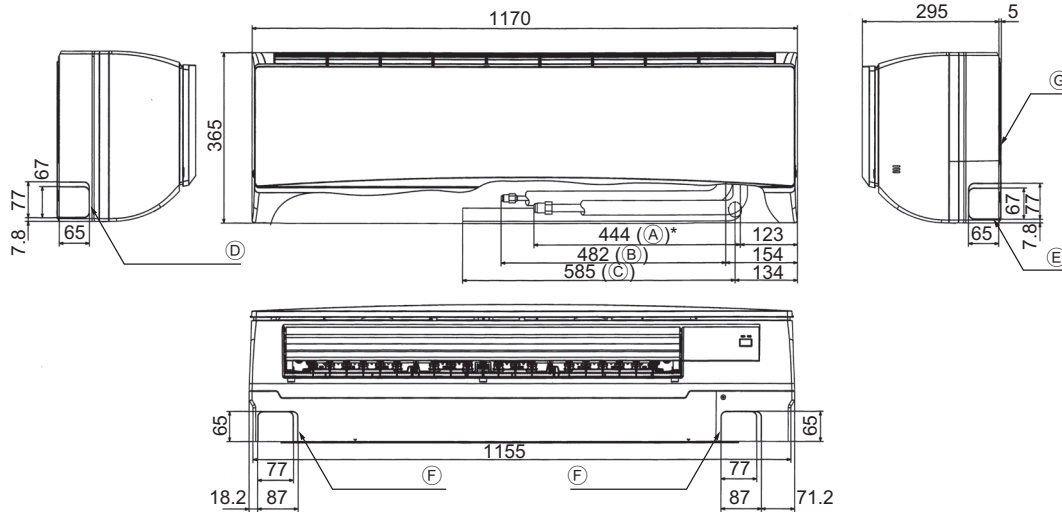

Fig. 4-3
4.4. Positioning refrigerant and drain piping (Fig. 4-3)
- Ⓖ Mount board ①